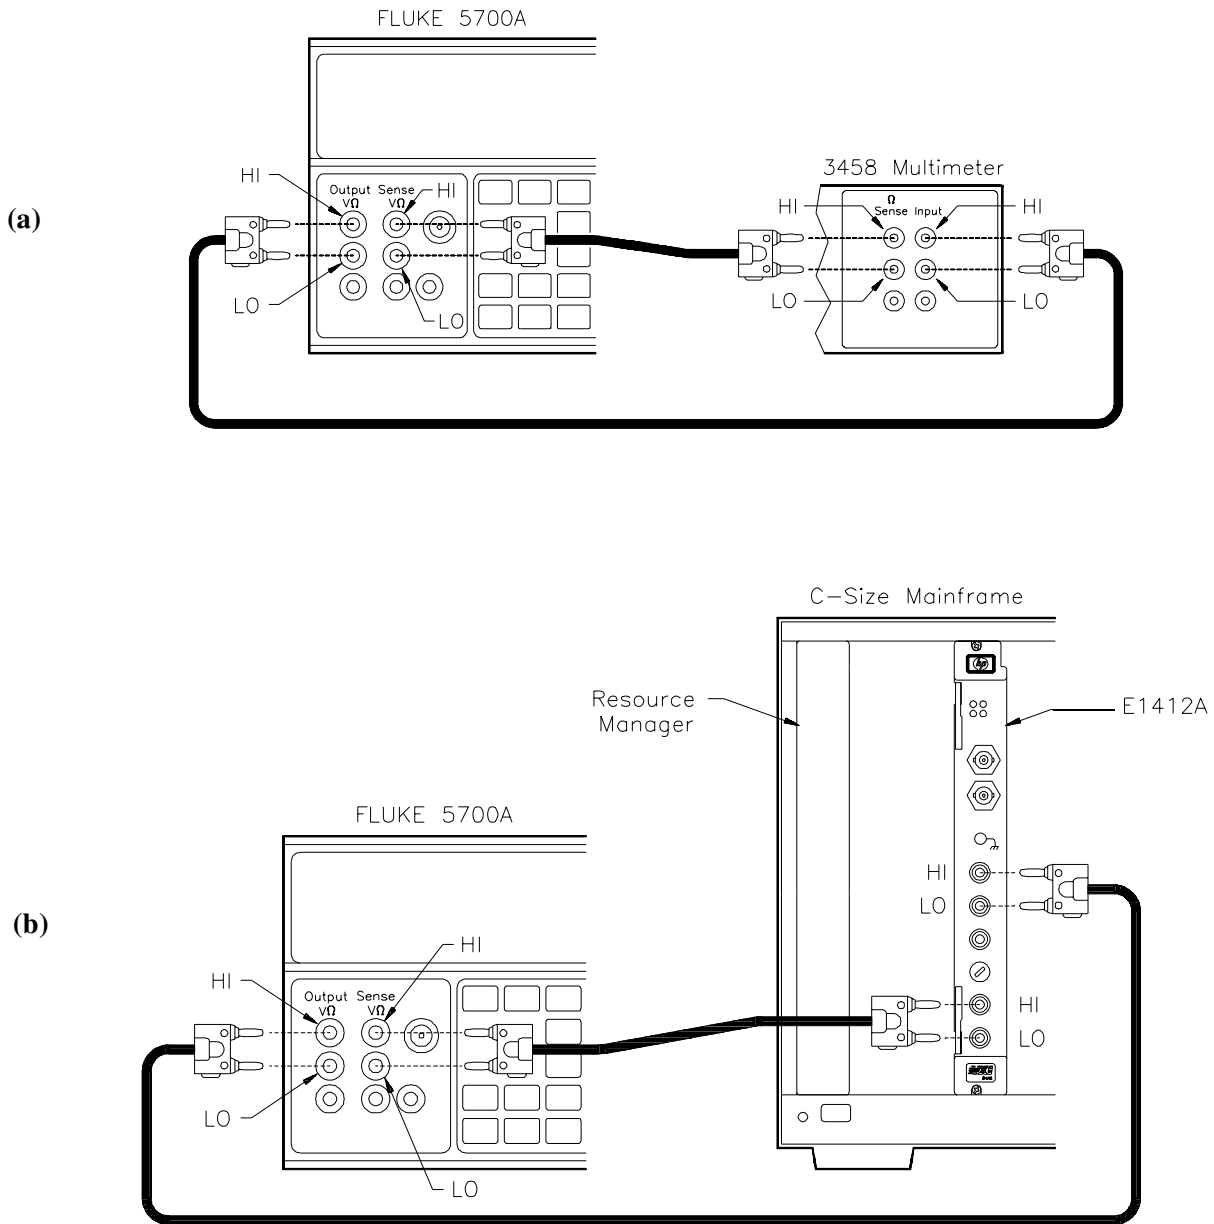

Figure 5-4. 4-Wire Ohms Gain Adjustment Setup
3. Measure the output of the Resistance Standard with the Transfer Standard DMM as shown in Figure 5-4(a) (optional). The Transfer Standard settings (offset compensation, auto-zero, etc.) and guarding should be identical to those used for the Agilent E1412A.
4. If used, disconnect the Transfer Standard. Using the same test leads, connect the Resistance Standard output to the terminals of the E1412A as shown in Figure 5-4(b).